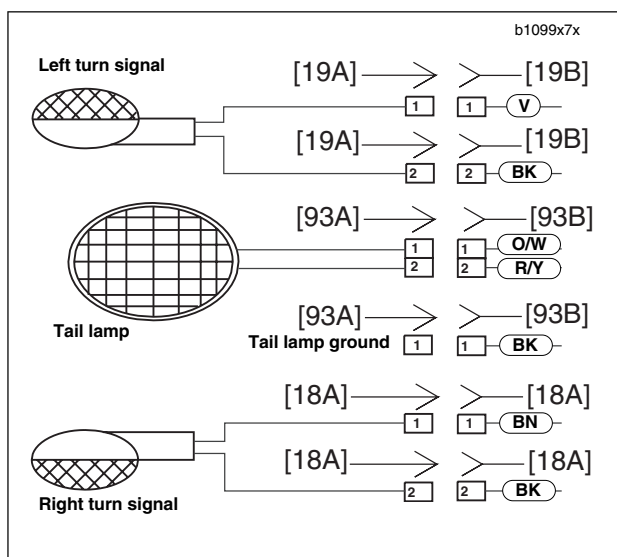

Figure 7-57. Rear Turn Signal Connections
3. Attach bullet connectors on turn signal wires as shown in Figure 7-57.
1. See Figure 7-57. Insert bullet connectors through center tail section.
4. Attach bullet connectors on turn signal wires as shown in Figure 7-57.